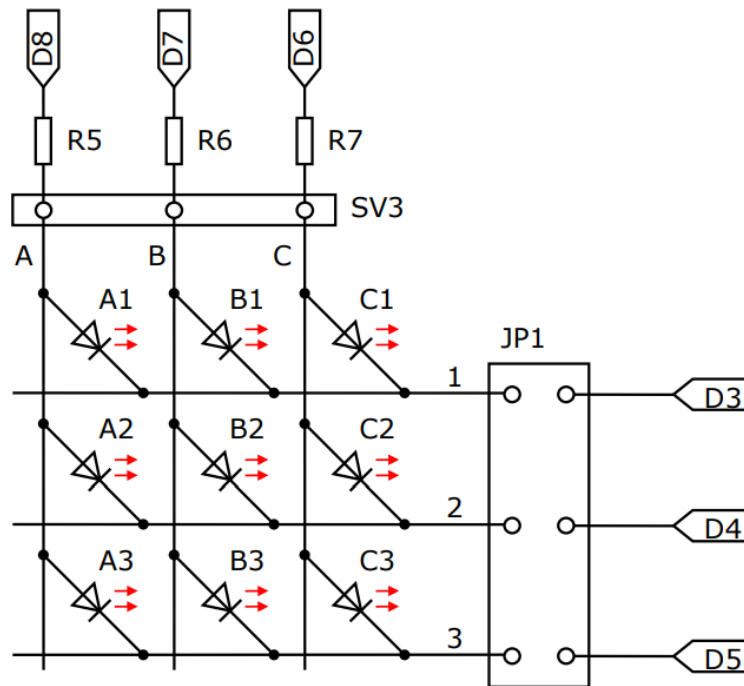

Figure 11: The nine LEDs in form of a 3 × 3 matrix
The 9 LEDs in the left part of Figure 1 are arranged in a matrix with 3 columns and 3 rows (arrow (27) in Figure 1). Their circuitry is shown in Figure 11. 9 LEDs can be controlled with only 6 GPIOs of the microcontroller due to the matrix arrangement.
The three-column lines A, B and C are permanently connected to the pins D8, D7 and D6 of the microcontroller as shown in Figure 11. The three resistors R5 ... R7 in the column lines limit the current through the LEDs. In addition, the column lines are connected to the connector SV3 (arrow (25) in Figure 1).